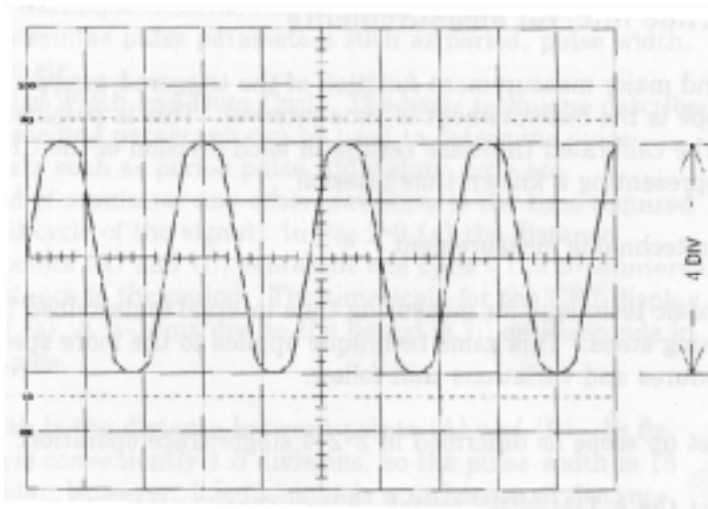

Fig. 2-7 PEAK-TOPEAK VOLTAGE MEASUREMENT
2. Adjust the TIME/DIV switch (22) for two or three cycles of waveform, and set the VOLTS/DIV switch [13] and [14] for the largest-possible totally-on-screen display.
3. Use the appropriate vertical POSITION control [17] or [18] to position the negative signal peaks on the nearest horizontal graticule line below the signal peak, per Fig 2-7.
5. Count the number of division from the graticule line touching the negative signal peaks to the intersection of the positive signal peak with the central vertical graticule line. Multiply this number by the VOLTS/DIV switch setting to get the peak-to-peak voltage of the waveform. For example, if the VOLTS/DIV switch was set to 2v, the waveforms shown in Fig 2-7 would be 8.0Vp-p. ($4.0\text{div} \times 2\text{V} = 8.0\text{V}$)